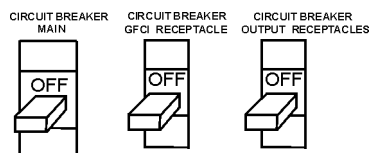

Figure 31. Main, GFCI and Load Circuit Breakers
1. Be sure to disconnect the electrical load and switch the **main**, **load** and **G.F.C.I.** circuit breakers (Figure 31) to the "OFF" position prior to starting the engine.